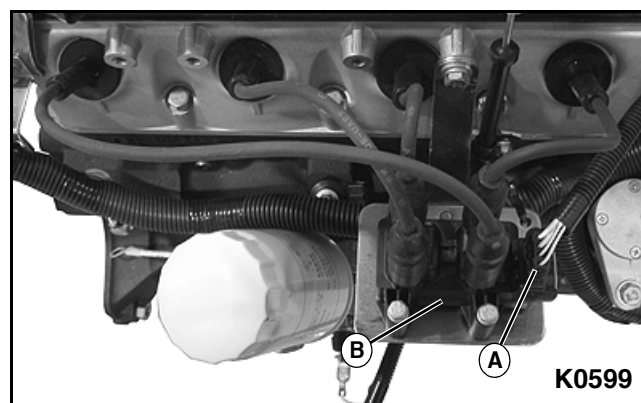

Figure 3-29
2. Disconnect electrical connector (A) from ignition coil (B). See Figure 3-29.